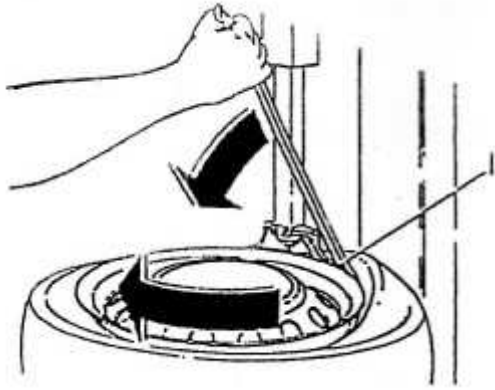

Fig.17
- Raise the bead with special lever and hook it onto the tongue of the bead (as fig.17 18) .